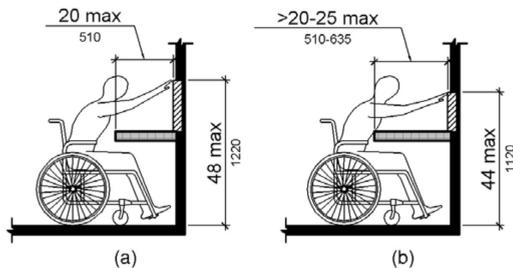
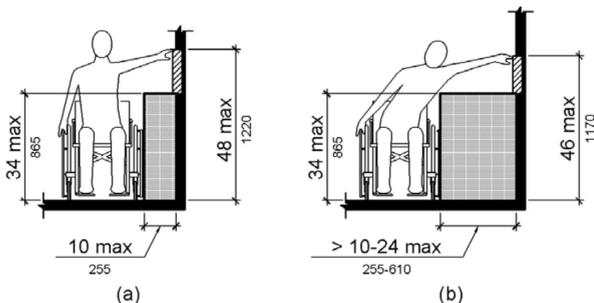

Figure 308.2.2
Figure 308.3.2
Coat hooks must be located between 15 and 48 inches above the finish floor for an unobstructed forward or side reach. If they are located over an obstruction that is between 20 and 25 inches deep, such as a countertop or shelf, they should be mounted no higher than 44 inches above the finish floor for a forward reach. See Figure 308.2.2(b). For an obstructed side reach between 10 and 24 inches, they should be mounted no higher than 46 inches. See Figure 308.3.2(b) (308) Shelves must be located between 40 and 48 inches above the finish floor. If located in a circulation path, they cannot stick out beyond the wall more than 4 inches unless their leading edge is 27 inches or lower. (603.4 and 604.8.3)